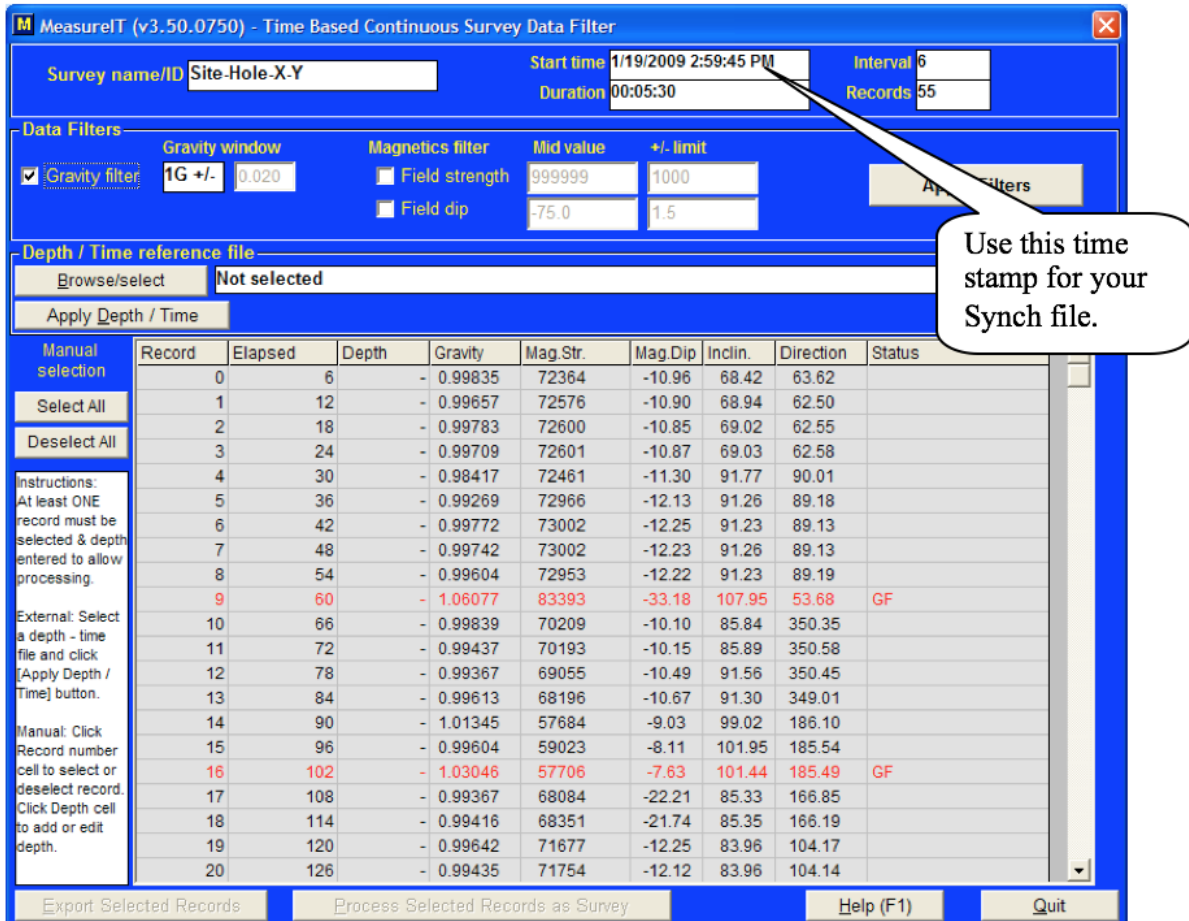

Figure 13 Preliminary downloaded data screen
4. After downloading the data processing screen appears (**Figure 13**). This is where you will select the synchronization file.
8. Click the **Process Selected Records as Survey (Figure 13)**. A file named {your survey name}\_FLT.svy is created. This will calculate the values for Magnetic Tool Face (MTF), the primary information IODP uses to orient cores, as well as a variety of other data.